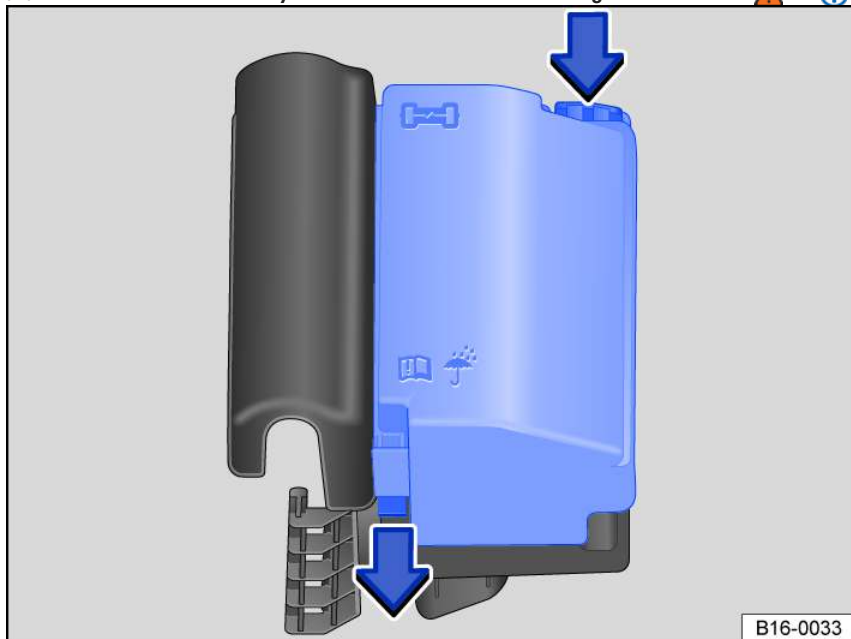

Fig. 129 In the engine compartment: cover of the fuse box.
2. Press the lock buttons in the direction of the arrow to release the fuse box cover fig. 129.